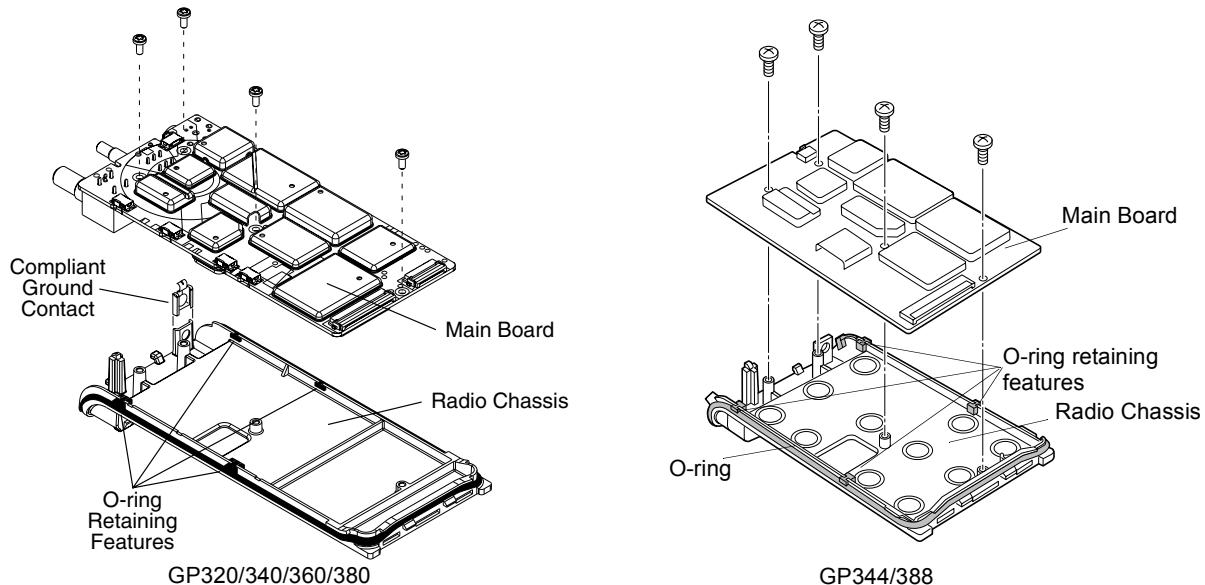

Figure 3-5 Remove Main Board from Chassis
- Lift the main board from the chassis (See Figure 3-5).